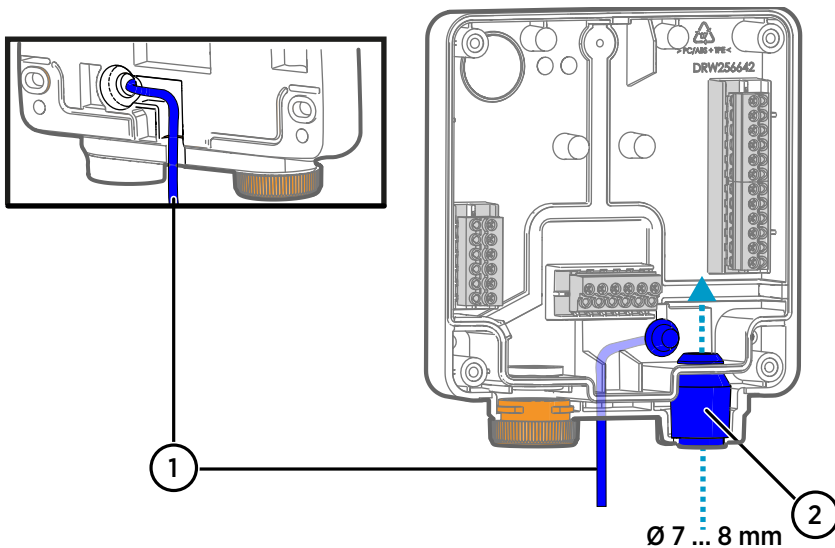

Figure 8 Indigo200 wiring options
- c. Nest the cable inside the groove on the back of the transmitter as shown in Figure 8 \(page 20\), and attach strain relief as needed.
5. When you have completed the wiring, nest the power supply cable in the groove at the back of the transmitter (see Figure 8 \(page 20\)), so that the cable does not push the transmitter off the installation surface.